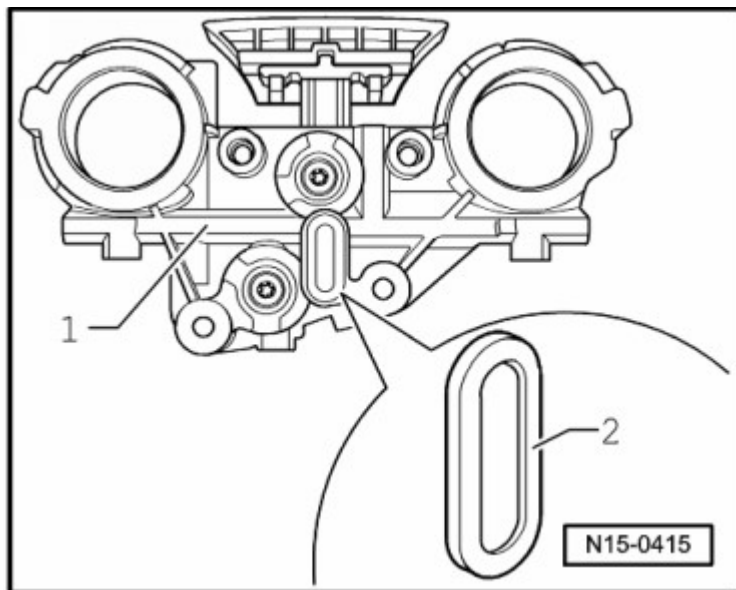

Fig. 17: Identifying Backside Of Control Housing & Screen
- Check control housing strainer for soiling before installation **Fig. 17**